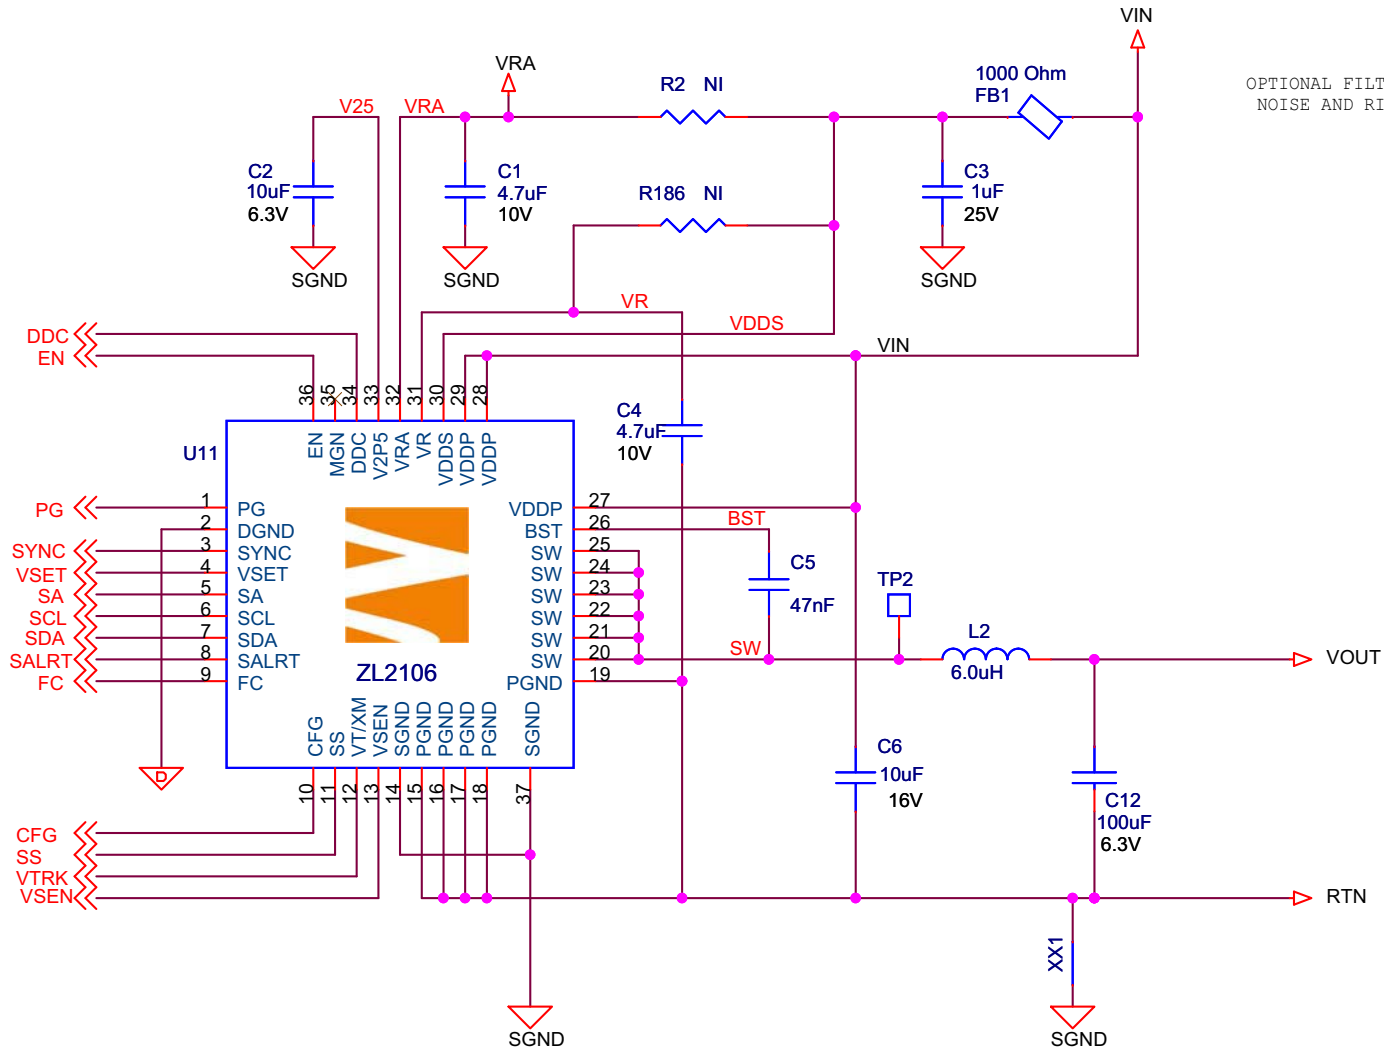

FIGURE 3. ZL2106EVAL1Z CIRCUIT
The hardware enable function is controlled by a toggle switch on the ZL2106EVAL1Z board. The Power-Good (PG) LED is powered from the I²C/SMBus source; it indicates the correct state of PG when external power is applied to the ZL2106EVAL1Z board. The right angle headers at opposite ends of the board are for connecting a USB to I²C/SMBus control board or for daisy chaining of multiple evaluation boards. Figure 3 shows the ZL2106 application circuit. The circuit consists of the ZL2106 power conversion and management IC with its minimal component count to realize a buck converter. The board layout has been optimized for thermal performance.
The board schematic in Figure 3 includes resistor population options for these connections.
NOTE: TP2 is labeled SW but is connected to BST (see Figure 3 schematic).